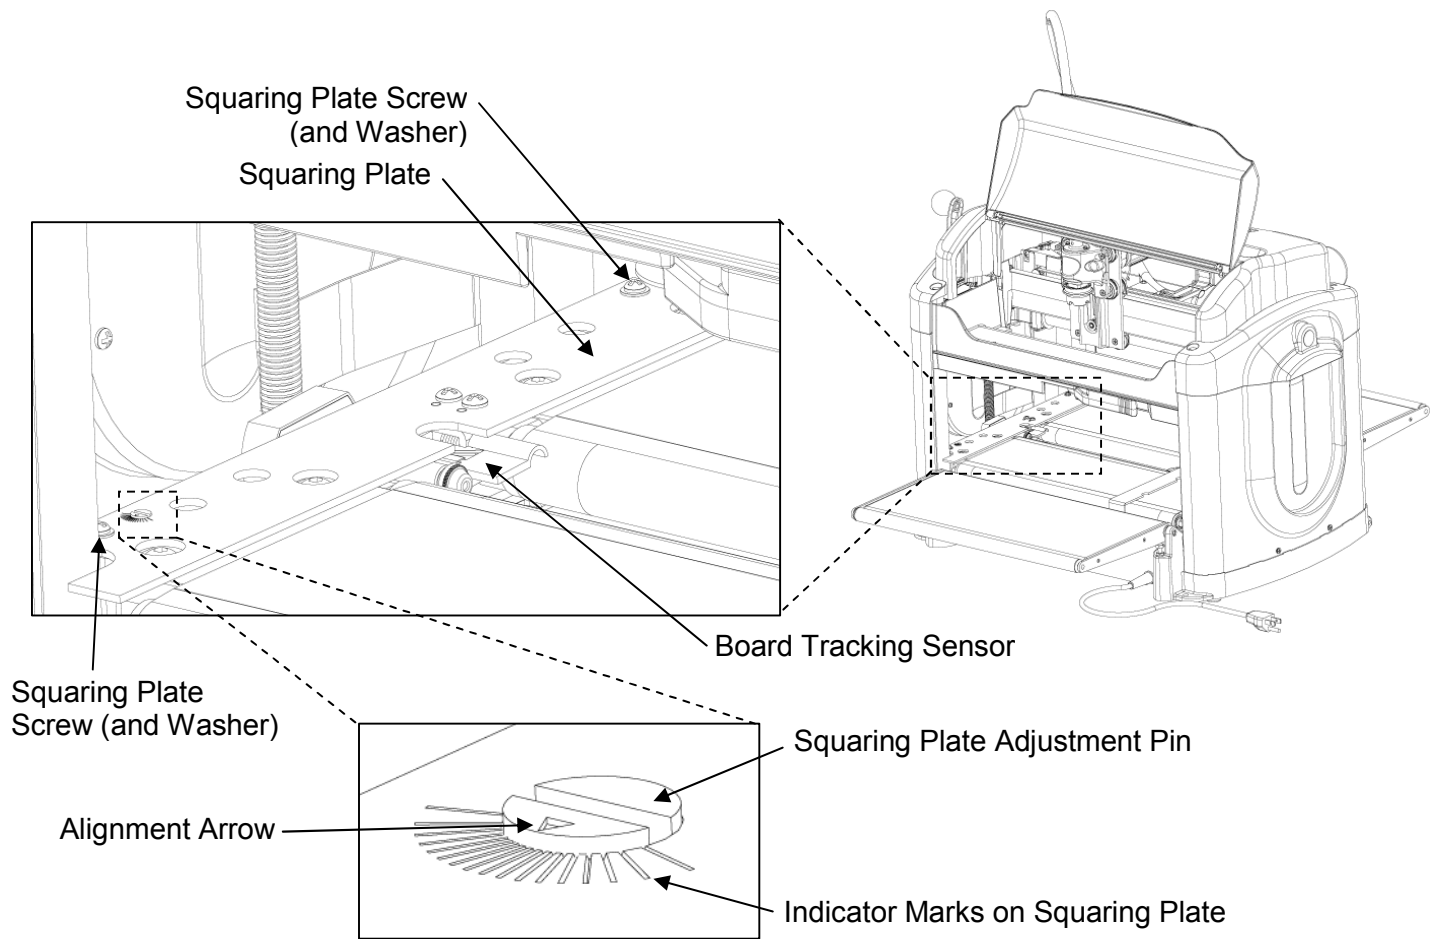

FIGURE 11: DETAILED VIEW OF THE SQUARING PLATE ATTACHMENT
21. **Free the squaring plate from the base.** Remove the two screws and washers (see Figure 11) holding the squaring plate in place.